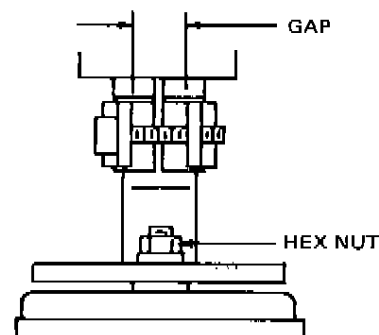

Figure 8
8. Install the upper and lower interrupter clamps. Position the clamps to the shoulder on the finger-type current exchange connectors and orient the upper clamp members so the gap between them (on one side) is above one of the three hex nuts on the interrupter (Figure 8).